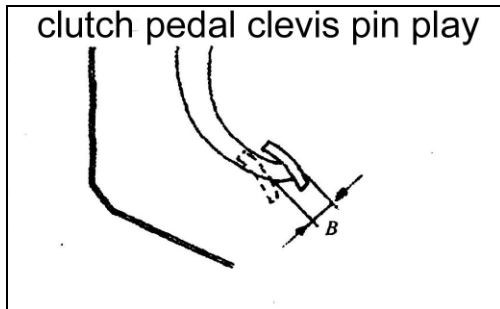

Fig.11-129
- (4)Measure the clutch pedal clevis pin play see Fig.11-129.